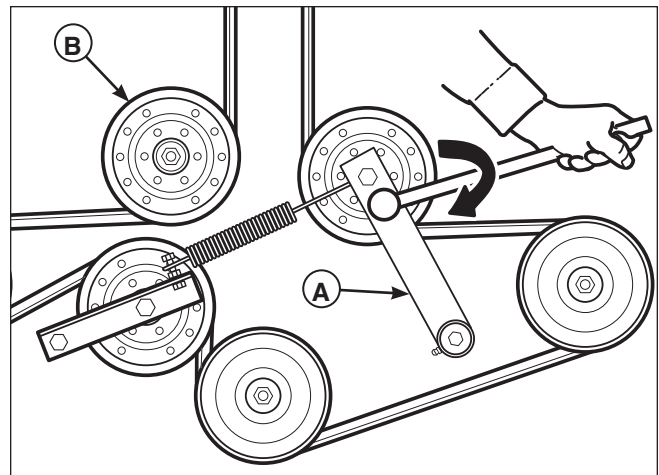
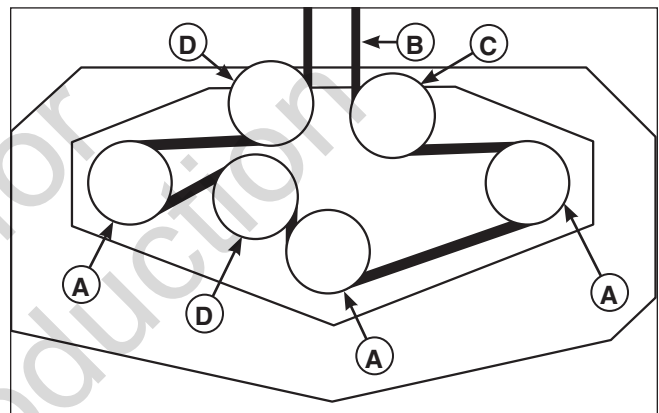

Figure 42. Mower PTO Belt
Figure 43. Mower PTO Belt Routing
3. Using a 1/2" breaker bar, place the square end in the square hole located in the end of the idler arm (A, **Figure 42**). Carefully rotate the breaker bar clockwise, which will relieve the tension on the belt exerted from the idler arm.
4. Slide the drive belt over the edge of the stationary idler pulley (B). Carefully release the tension on the breaker bar.
5. Remove the old belt and replace with a new one. Make sure the V-side of the belt runs in the pulley grooves (**Figure 43**).
6. Install the drive belt on the PTO pulley, the spindle pulleys and all idler pulleys except the stationary pulley (B, **Figure 43**). Carefully rotate the breaker bar clockwise and install the belt on the stationary idler pulley (B). Carefully release the tension on the breaker bar.